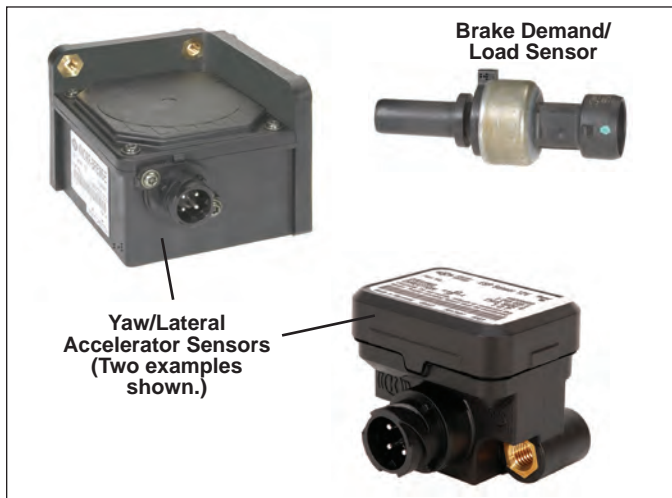

FIGURE 5 - YAW AND BRAKE DEMAND/LOAD SENSORS
- Bendix® YAS-60™ or YAS-70X™ Yaw Rate/Lateral Acceleration Sensors (typically mounted to a cross-member near the back of the vehicle cab). See *Figure 5*.